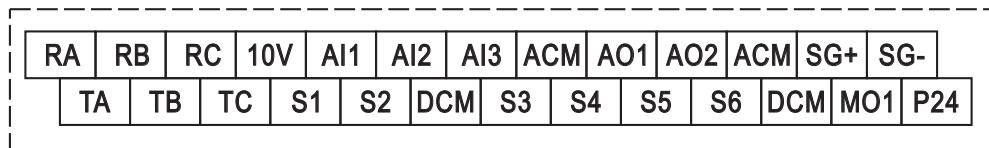

Figure 3-4: Schematic diagram of main control board terminal configuration
1) Schematic diagram of control circuit terminals (Figure 3-4)